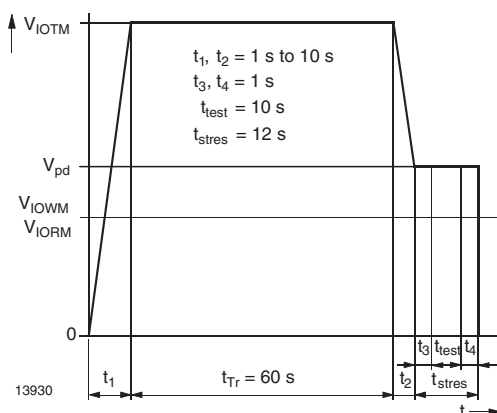

Fig. 2 - Test Pulse Diagram for Sample Test according to DIN EN 60747-5-2 (VDE 0884)/IEC 60747-5-5
- According to DIN EN 60747-5-2 (see figure 2). This optocoupler is suitable for safe electrical isolation only within the safety ratings. Compliance with the safety ratings shall be ensured by means of suitable protective circuits.